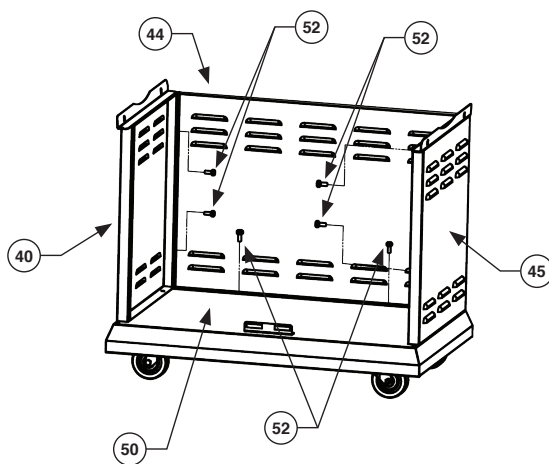

FIG 3
3. Secure Back Plate (44) on the Platform (50) with  $\frac{1}{4}$ -20\*  $\frac{1}{2}$  Bolt (52) and link with Left Plate (40) and Right Plate (45). As shown in FIG 3.